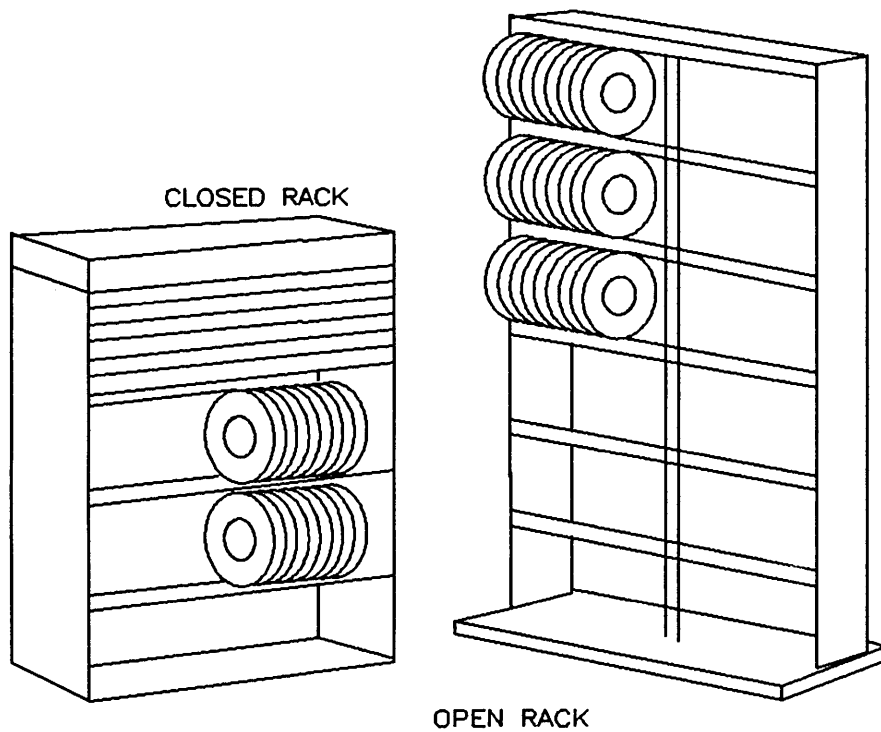

Figure 3-1 Tape Storage Racks
2. Tape storage racks should allow for vertical storage of tapes (refer to Figure 3-1).
4. When storing tapes outside the designated storage area, closed tape racks should be used (refer to Figure 3-1).